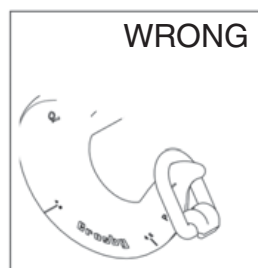

Figure 1
- Attach lifting device ensuring free movement of weld-on pivoting link bail (Figure 1).
- Attach lifting device ensuring free fit to hoist ring bail (lifting ring) (Fig. 1).